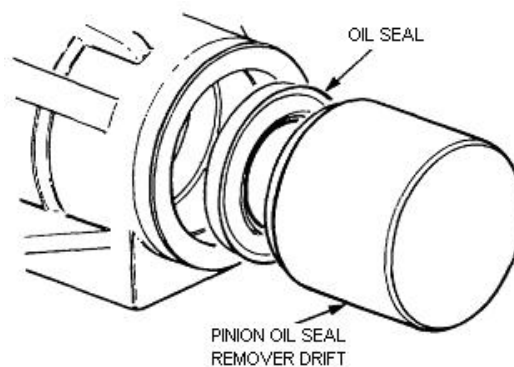

Figure 89 Pinion Oil Seal Installation
- b. Using the pinion oil seal replacer drift (Table 3, Serial 5), insert the seal with the seal lip towards the pinion (Figure 89).